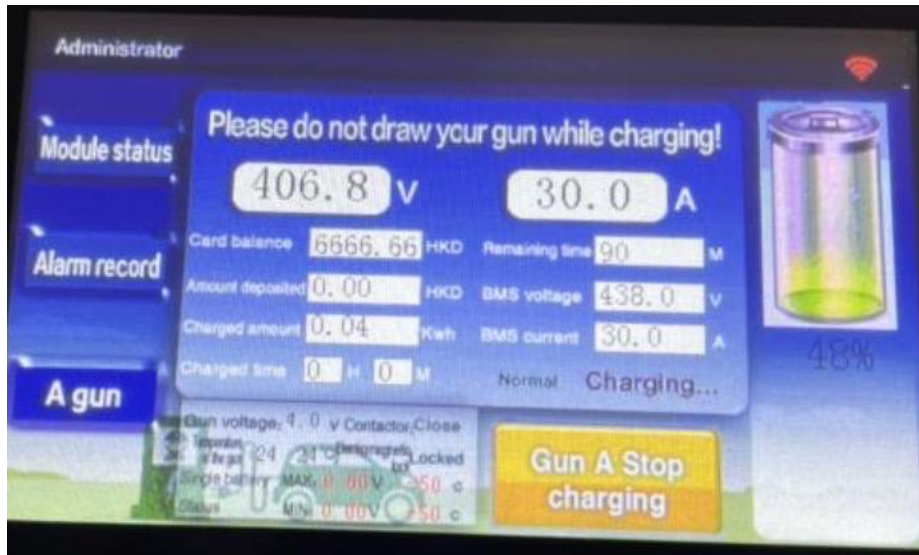

Figure 6-2-2
- 2) After the user successfully connects the charging station to the electric vehicle, click 'Gun A Start charging.' This action will navigate to the charging mode selection page. Click 'Automatic filling,' and the display screen will transition to the charging information interface. The charging station will commence operation, as illustrated in Figure 6-2-2.